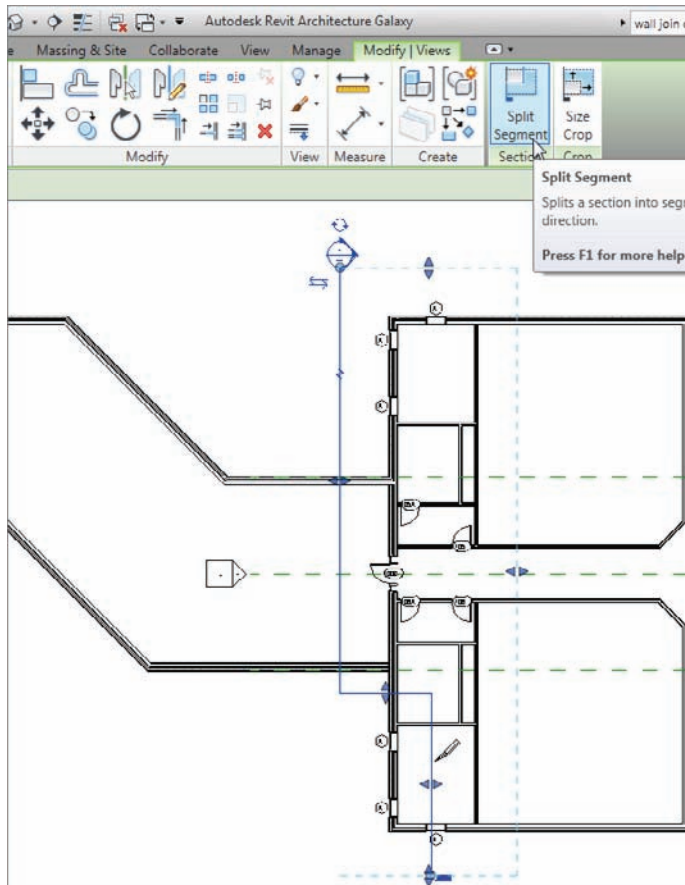

FIGURE 3.61 Jogging a section calls for splitting the segment.
8. Pick a point along the section line just below the corridor, as shown in Figure 3.61.